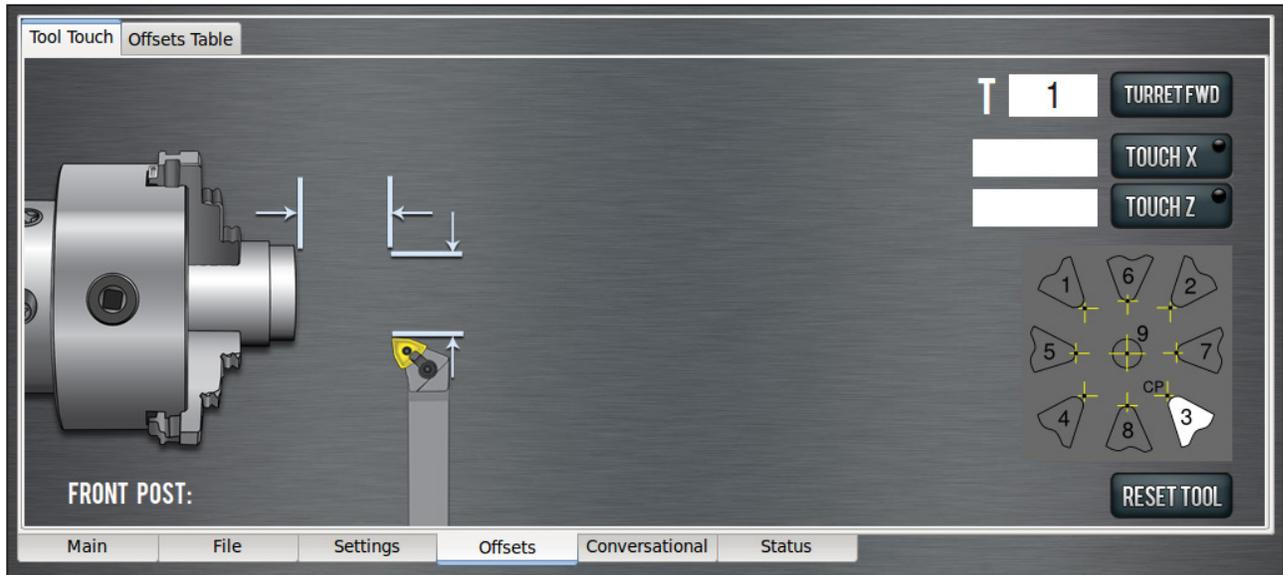

Figure 5.17
3. Brings up the tool touch off dialogue. **Figure 5.17** shows the tool touch off dialogue for a front tool post right-handed turning tool.
The tip orientation has been automatically set to 3 in orientation graphic (see **Figure 5.17**). This dialogue is intended to make setting the tool geometry offsets (or touching off the tool) easy and intuitive.